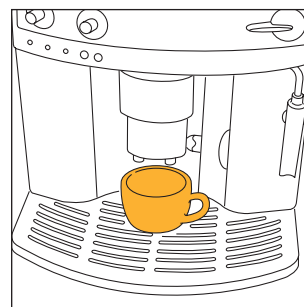
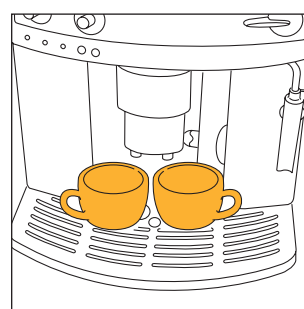
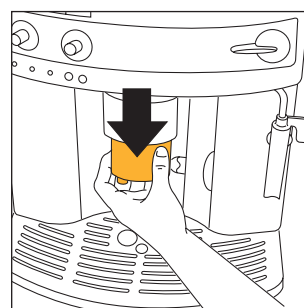

Fig. 9
Fig. 10
Fig. 11
- 4) Place one cup under the spouts to make 1 coffee (Fig. 9) or 2 cups for 2 coffees (Fig. 10). For a creamy coffee, lower the spouts to bring them as close to the cups as possible (Fig. 11).